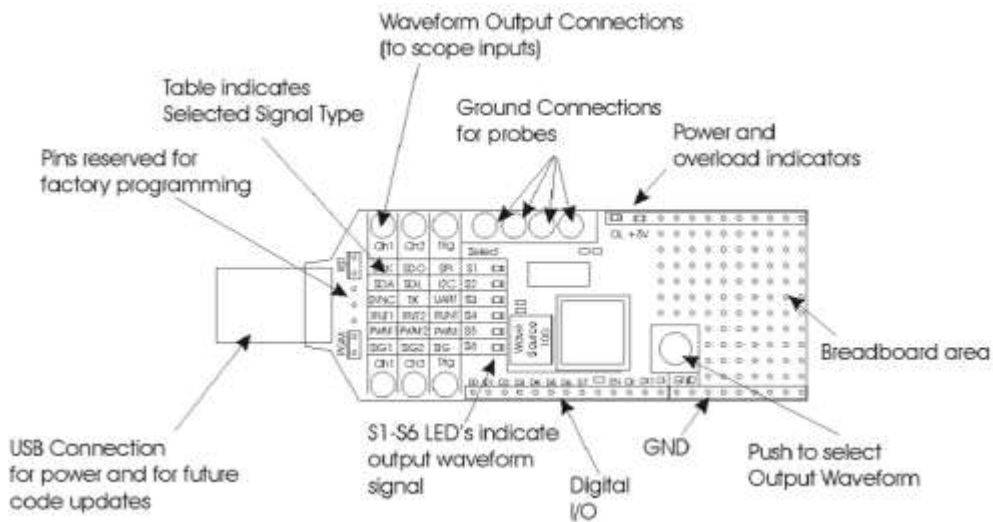

Figure 1: An outline drawing of the WS 100 demonstration signal source. Use the push button to select one of 6 waveform choices
4. Connect the passive probe to Channel 1 of the scope and the probe tip to Ch2 of the WS 100. Ch2 is the SIG2 signal which contains a glitch and a non-monotonic edge anomaly. Connect the probes ground clip to the ground pad shown in Figure 1.